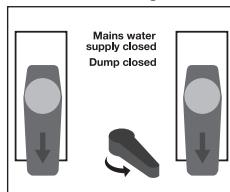

Figure 4 – Adding Chemical
2. Set the Inlet/Outlet Valves and Flow Reverser as in *Figure 4*.